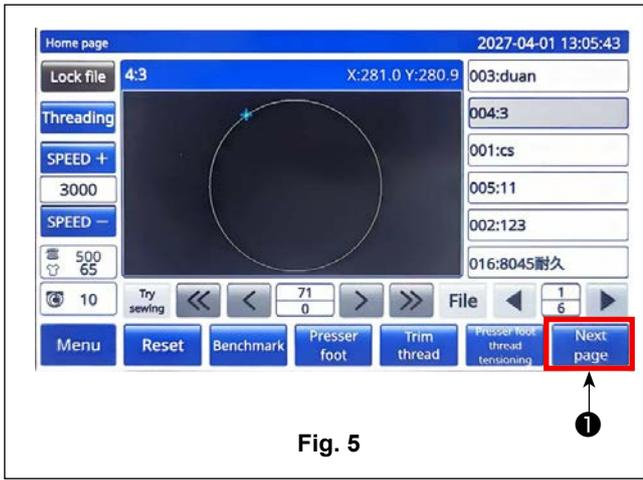

Fig. 5
Secure tension fork ⑤ of the thread tension cylinder parts as shown in Fig. 4 to the position shown in Fig. 5.
4) Press "Next page" ❶ on the electronic control main screen. (Fig. 5)